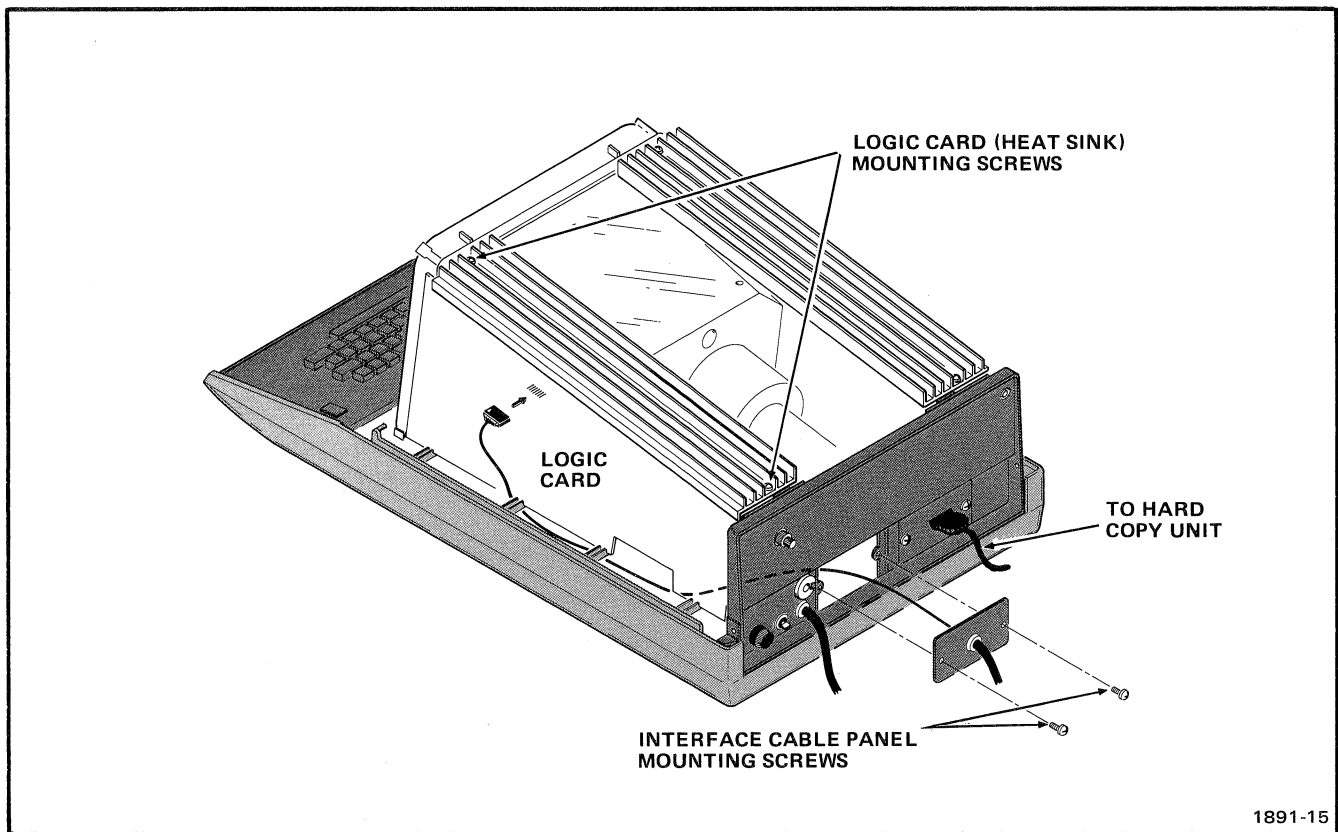

Fig. 4-4. Panel and Logic Card Mounting.
3. Remove the two screws which mount the interface cable panel to the back of the terminal (see Fig. 4-4).